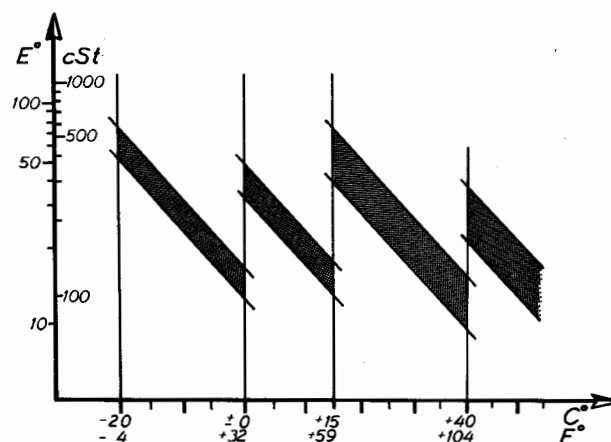

Fig. 49. Changes in viscosity of the recommended groups of lubricating oil with rising temperatures
12.1. Choice of lubricating oil (Fig. 49)
The lubricating properties of the oil as well as the possibility of atomizing it in the lubricating valves are dependent to a great extent on its viscosity (ability to flow), which varies with the temperature (Fig. 49). A suitable oil should, with reference to the lubricator, not have a higher viscosity than 700 cSt , and, with reference to its lubricating properties, not lower than about 50 cSt in the drill. In the table "Recommended lubricants" are given the most suitable pneumatic tool oils of mineral oil types from the major oil companies within the various temperature ranges. Equivalent grades of other well known makes can also be used. In addition to a suitable viscosity the oils should have good adhesion properties, high film strength and should prevent corrosion. From the viewpoint of hygiene they should be non-toxic.